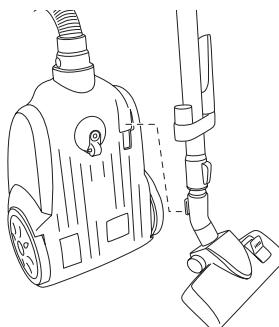

Figure 9
3. Stand the vacuum cleaner upright. Retract the telescopic tube completely. An attachment slot for the telescopic tube is fitted to the back of the vacuum cleaner, next to the front castor (see Figure 9). Slide the bottom of the accessory bracket into the slot. This avoids the need to dismantle the vacuum cleaner after use; you can store the assembled appliance and retrieve it again quickly when you need it.